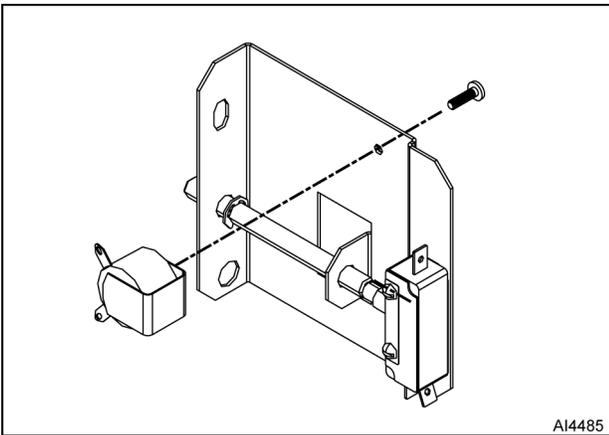

Fig. 63
5. Remove fastener and buzzer from cabinet door actuator bracket (Fig. 63).